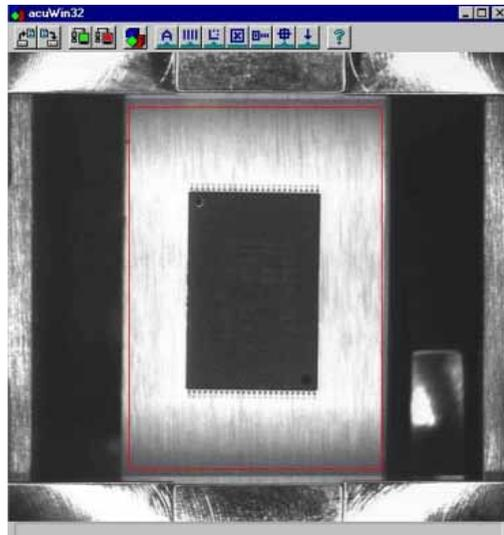

Figure 3-46—Set device search area (red rectangle) around device
- 6c) Set the device search area (red rectangle) around the device so that it is 30-50% larger than the device. See Figure 3-46. To adjust the device search area, place the arrow on any red line, hold down the left mouse button, and use the trackball to drag the line.